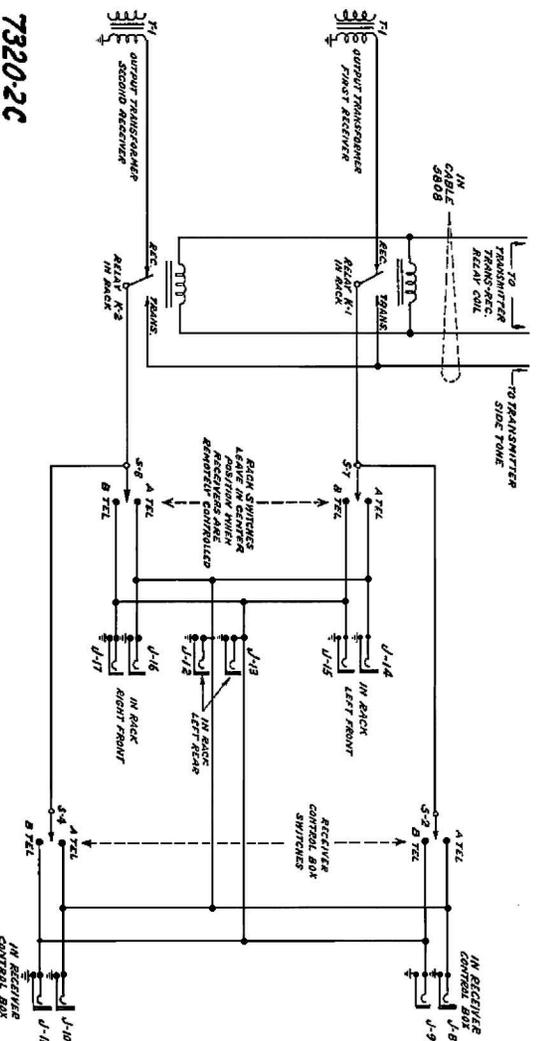

FIG. 3.—RECEIVER OUTPUT CONNECTIONS
The receiver output connections are shown in Fig. 3. For local control operation, the receiver control box switches are not employed. It will be noted that a switch on the rack connects the first receiver output to the "A Tel" line, or to the "B Tel" line, or leaves the output disconnected, and similarly, a second switch connects the second receiver output to the "A Tel" line, or to the "B Tel" line, or leaves the output disconnected. The switch which controls the output of a receiver, is on the front of the rack directly under that receiver. If the equipment is to be operated by
remote control, all switches shown in Fig. 3 are in the circuit, but the switches on the rack must be left in the center or neutral position. When this is done, the disposition of receiver outputs is controlled by the two control box "A-B" switches. Here also it is possible to connect either or both receivers to "A Tel" or "B Tel" jacks, or to leave the output of either or both receivers disconnected.
Fig. 3 shows a relay associated with each receiver. The function of each relay is to connect the telephone line either to the side tone line from an external transmitter, or to the output of the receiver. These relays are designed and connected to operate simultaneously with the keying relay of a transmitter.
Schematic circuit diagrams of the Model RAT and Model RAT-1 receivers are shown in Figs. 10 and 11. The wiring diagrams of the receivers are shown in Figs. 14 and 15. Fig. 3 shows the output circuits of receivers from the secondary of each of the output transformers to the several headset jacks.
Headset plugs may be inserted into either of the “A Tel” or “B Tel” jacks without regard to location of these jacks. The “A-B” switch associated with each of the receiver controls, determines whether that receiver shall be connected to either of the “A Tel” or “B Tel” jacks. See Fig. 3 for the schematic circuit arrangement.
headset jacks, two on the front, and one on the left rear of each rack. Two three-position toggle switches are located on the front of each rack, one at the center of each stall. The paragraph above entitled “Receiver Output Connections” describes the functions of these toggle switches in transferring the receiver output to the “A” or the “B” headset jacks and the schematic diagram, Fig. 3, shows the circuits.
There are two switches, a gain control knob, and a tuning control associated with the operation of each receiver. In the center ("OFF") position of the switch panel switch, all power is off. In the "MCW" position, power is on the vacuum tube heaters and dynamotor. In the "CW" position the same is true, and in addition the CW oscillator is turned on. A three-position toggle switch is mounted on the rack under each receiver. When this switch is thrown to the left to "A Tel" the output of the receiver directly above is connected to "A" telephone line, and when thrown to the right it is connected to the "B" telephone line. When the switch is in the center position, the receiver output is connected to neither line (see Fig. 3). Thus the output of each receiver may be connected to either or neither line by means of these switches. The dials of both receivers are direct-reading in megacycles (MC). The tuning dial may be rotated until a small dot just above the highest calibrated frequency comes under the fiducial mark. Do not attempt to tune beyond this point. This is the minimum capacitance position of the gang capacitor. If considerable force is applied in attempting to tune beyond this point, the gang capacitor may be damaged.